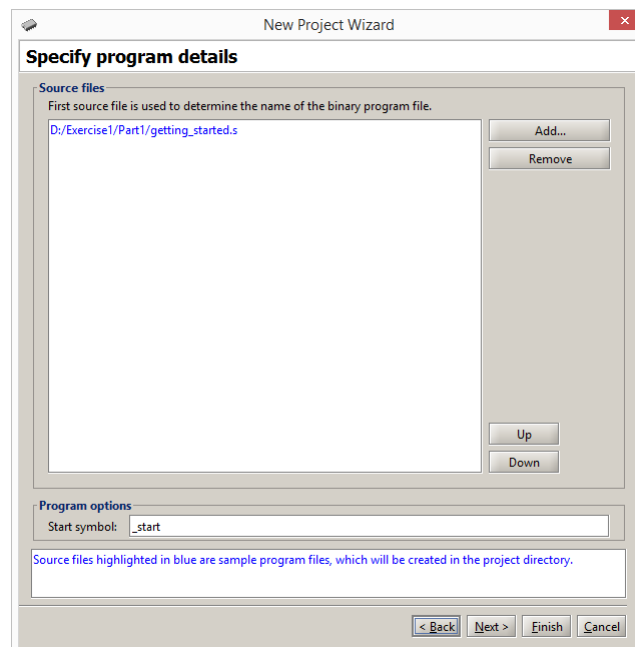
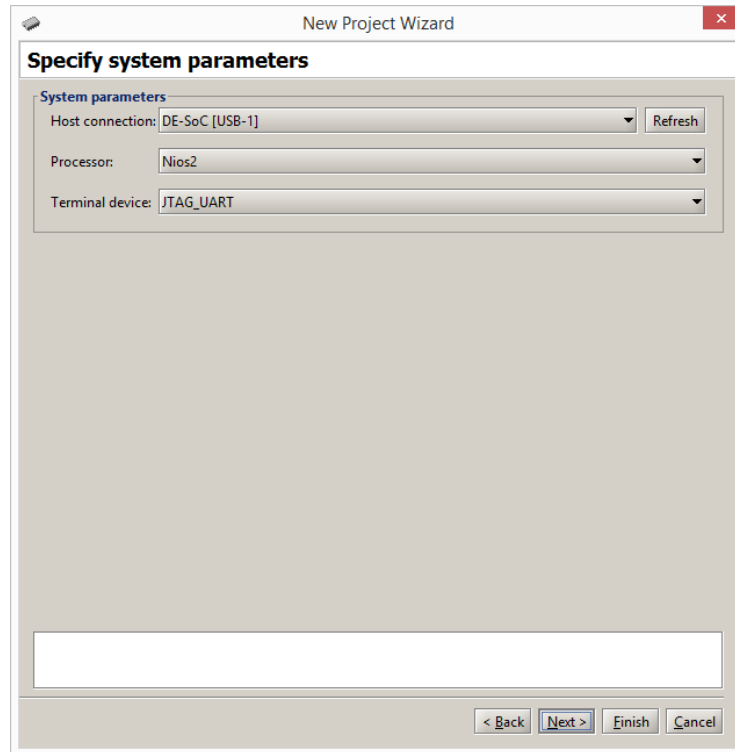
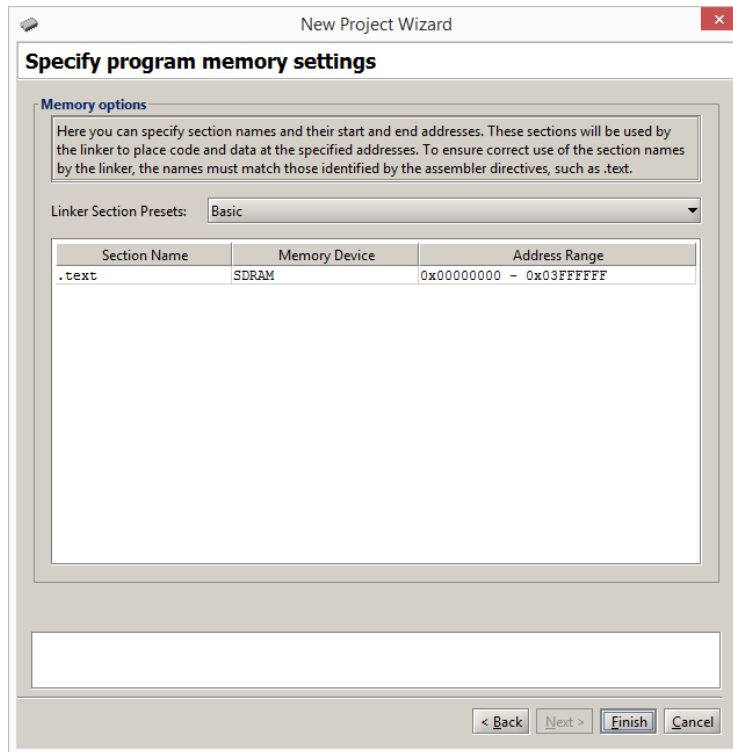

Figure 5: Source files used by the application program.
Figure 6: Specify the system parameters.
Figure 7: Specify the program memory settings.
5. The window in Figure 5 is used to specify the source file(s) that contain the application program(s). Since we have selected the *Getting Started* program, the window indicates the source code file for this program. This window also allows the user to specify the starting point in the selected application program. The default symbol is `_start`, which is used in the selected sample program. Click Next.
6. The window in Figure 6 indicates some system parameters. Note that the figure indicates that the *DE-SoC [USB-1]* cable is selected to provide the connection between the DE1-SoC board and the host computer. This is the name assigned to the USB-Blaster connection between the computer and the DE1-SoC board. For the other boards, the connection may be called *USB-Blaster [USB-0]*. Click Next.
7. The window in Figure 7 displays the names of Assembly sections that will be used for the program, and allows the user to select a target memory location for each section. In this case only the *.text* section, which corresponds to the program code (and data), is defined. As shown in the figure, the *.text* section is targeted to the SDRAM memory in the Computer, starting at address 0. Click Finish to complete the specification of the new project.
2. Upon reaching the window in Figure 5, you have to specify the source code file for your program. Click **Add** and in the pop-up box that appears indicate the desired file name, *part2.s*. Click **Next** to get to the window in Figure 6. Again click **Next** to get to the window in Figure 7. Notice that the SDRAM is selected as the memory device. Your program will be loaded starting at address 0 in this memory. Click **Finish**.